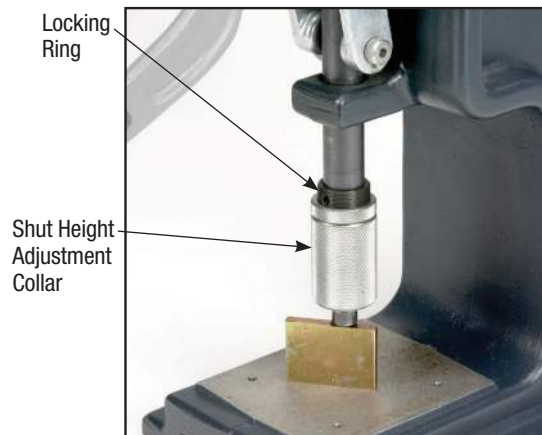

Figure 3a
- With the Press 3335, lock the shut height adjustment collar toward the base of the press shaft. (See Figure 3a)